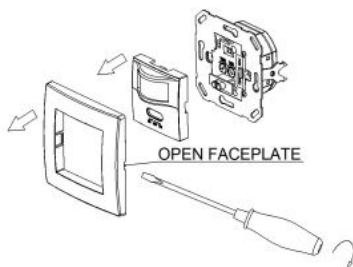

Figure1
- Unload the faceplate of sensor and adjust the time and LUX knob.(refer to figure 1)